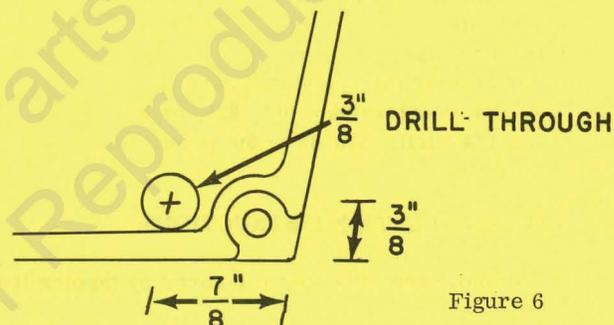

Figure 6
15. Locate the outside lower right hand corner of the recoil starter housing. Carefully measure up $3/8$ " from the bottom edge and $7/8$ " in from the rear edge as shown in Figure 6. Centerpunch and drill through with a $3/8$ " drill to clear the lower screw head and washer.